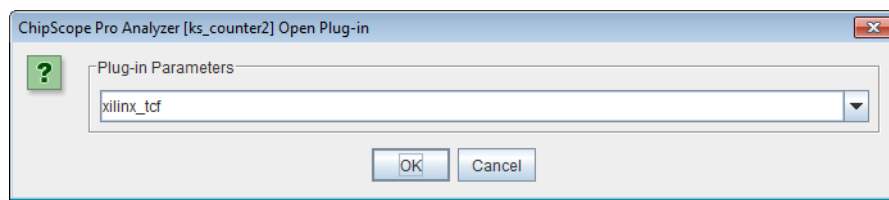

Figure 5-23: Connecting to the Target Board
6. In the ChipScope Pro Analyzer, connect to the target board by using the **JTAG Chain > Open Plug-in** menu option set to **xilinx\_tcf** (see Figure 5-23).